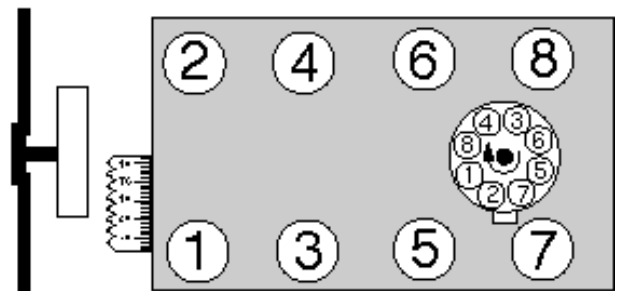

Figure 3
1. For cylinder numbering and firing order, see Figure 3.